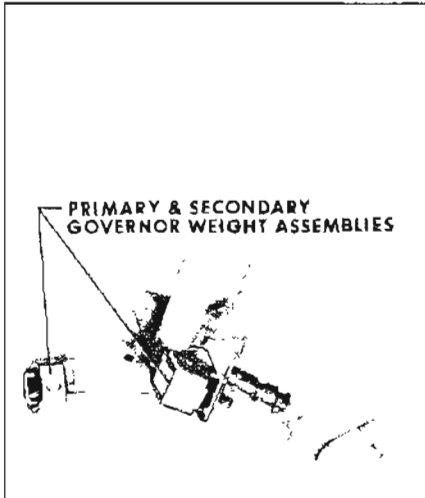

Figure 5-250
4. Install primary and secondary governor weights into drive gear and sleeve assembly. See Figure 5-250.